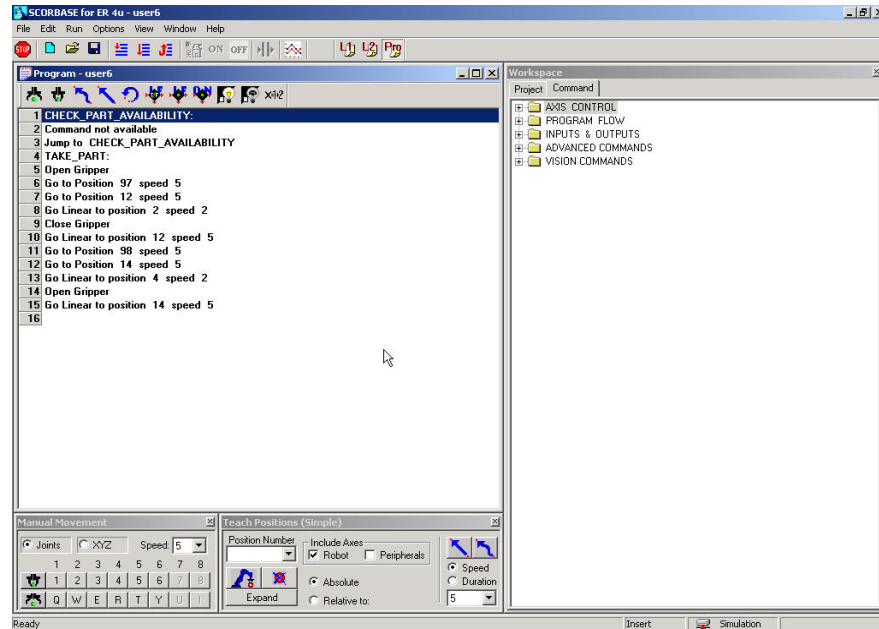

Figure 6-2
- 7 Your program should now appear as shown in Figure 6-2. **Use the scroll bar to move down to line 11.** If necessary, make corrections.